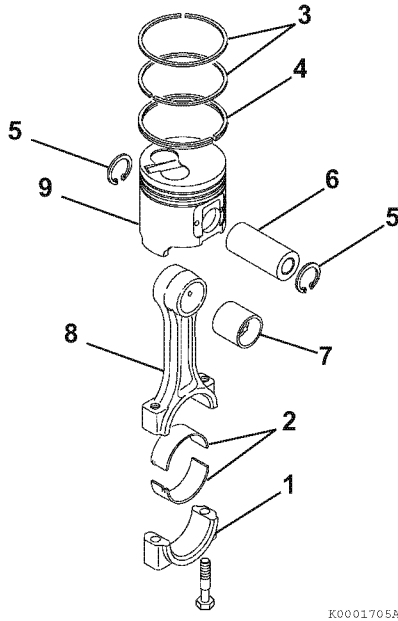

Figure 6-85
2. If removed, install a new wrist pin bushing (**Figure 6-85, (7)**) using a press and the appropriate service tool. Be sure to align the oil holes.
3. Reinstall one circlip (**Figure 6-85, (5)**) into the piston. Ensure the circlip is securely seated in the groove.